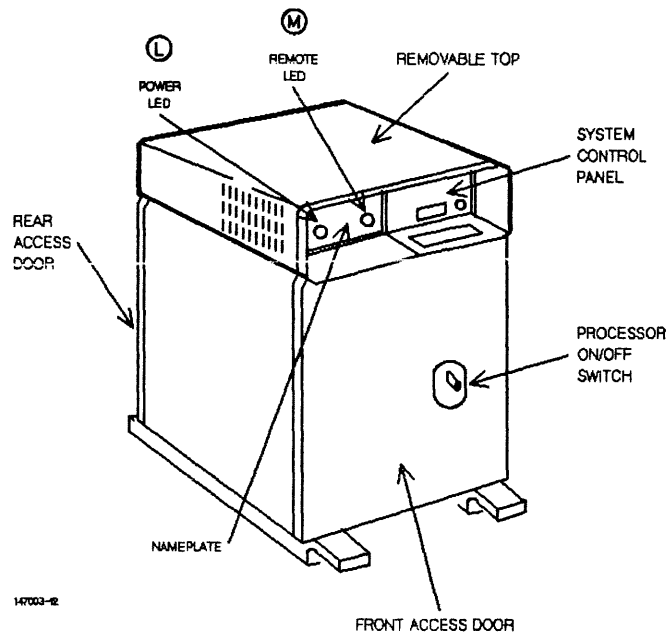
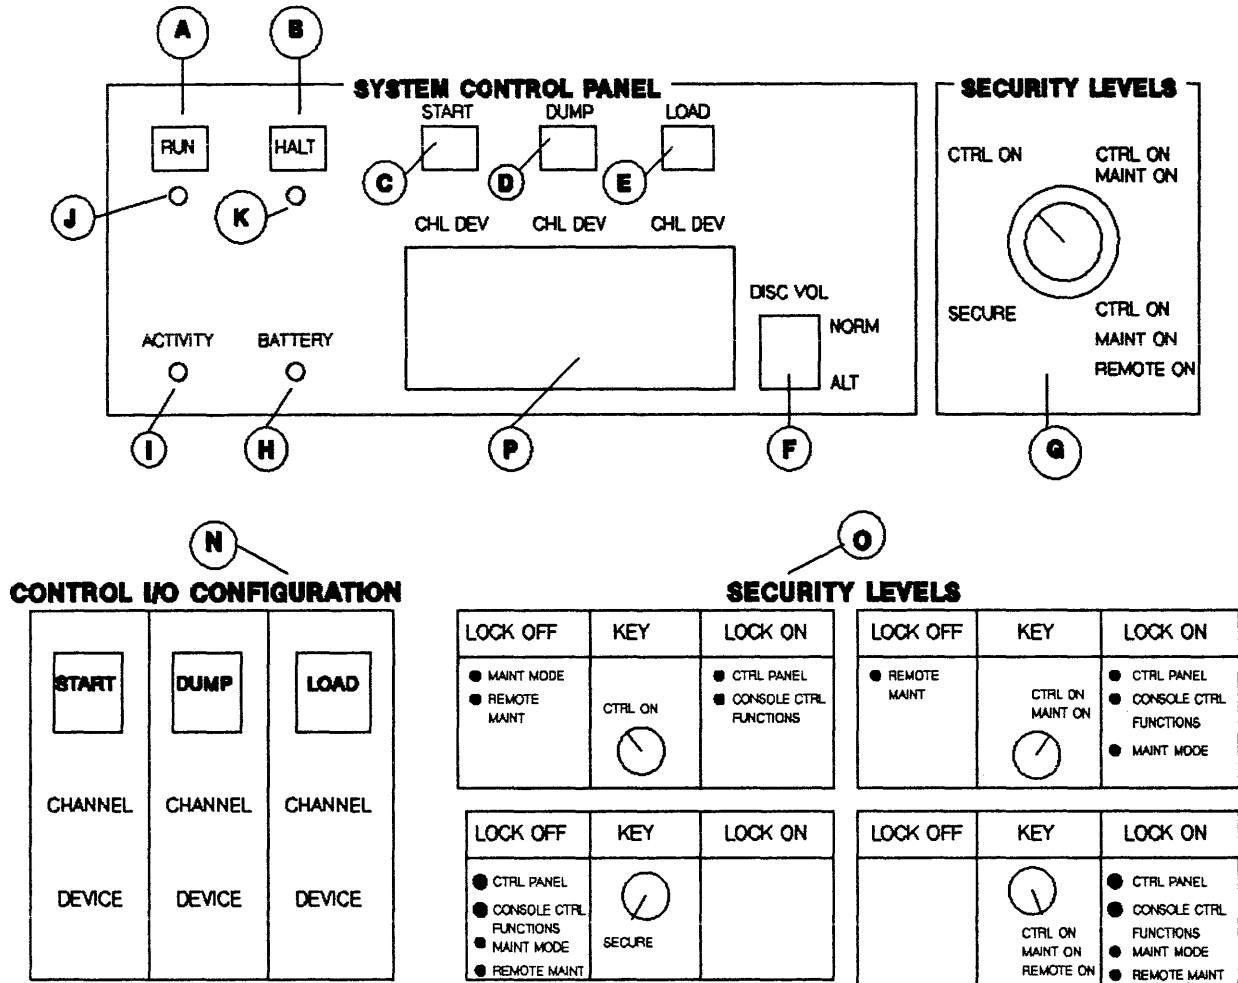

Figure 11-2. Series 39/40/42 System Processor Unit (SPU)
Figure 11-3. Series 39/40/42 System Control Panel Switch/Indicator Function
SERIES 39/40/42. The System Control Panel is located behind the non-lockable, magnetic-latch door on the right front side of the System Processor Unit (SPU) (Figure 11-2).
Hardware Related Controls. The hardware related controls are the RUN and HALT switches. See Figure 11-3 for an illustration of each of the System Control Panel's switches and indicator lights.
| (C) START | Pressing this switch initiates either a COOLSTART or a WARMSTART of the system. The CHL and DEV address are set in the thumbwheel switches directly below the START switch (Figure 11-3.) |
Status Indicator Lights. The System Control Panel has six status indicator lights. The RUN, HALT, ACTIVITY, and BATTERY LEDs are located on the System Control Panel (Figure 11-3). The POWER and REMOTE CONSOLE LEDs are located in the nameplate on the front panel (Figure 11-2).
The three pairs of thumbwheel switches located on the front panel, correspond with the START, DUMP, and LOAD functions of the machine. Each pair contains a hardware channel number (CHL) and an HP-IB device (DEV) address setting for the corresponding START, DUMP, and LOAD devices. See Figures 11-3(C, D, E) and 11-5(C, D, E). These switches are initially set by your Hewlett-Packard Customer Engineer when your system is installed.